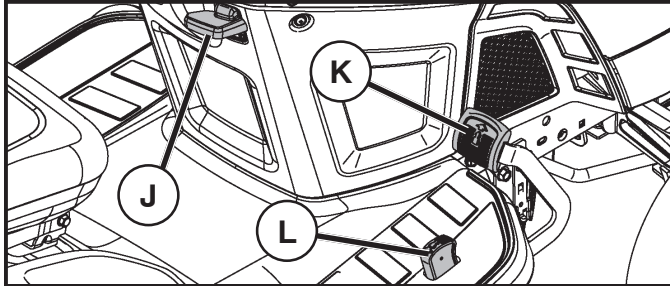

Fig. 8
- Slowly depress forward (K) or reverse (L) drive pedal to begin movement. Ground speed increases the further down the pedal is depressed.
## TO USE CRUISE CONTROL (J) (See Fig. 8)